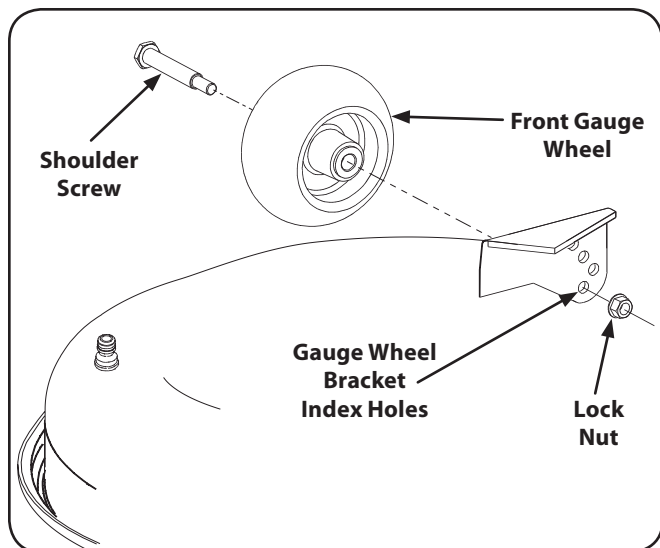

Figure 6-6
- Remove the lock nut securing one of the front gauge wheel shoulder screws to the deck. Remove the gauge wheel and shoulder screw. See Figure 6-6.